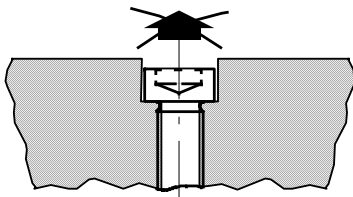

Fig. 3
- Use the product in its original status, without any unauthorised product modifications. The individual components are fixed with screw locking agent (→ Fig. 3).